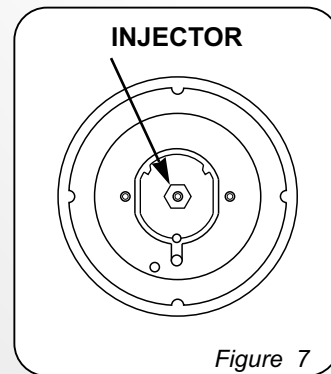

Figure 7
- insert on hexagonal spanner (7 mm) into the burner support (*Figure 7*)